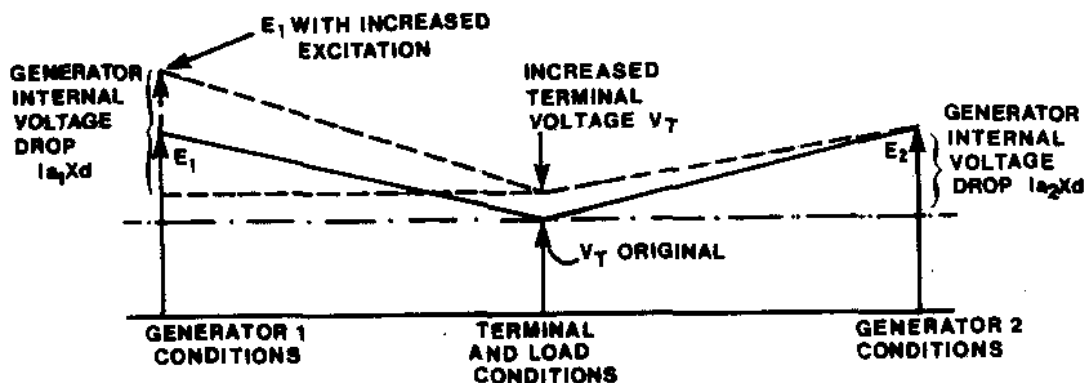

Figure 3: Diagram showing how V_T rises with increased excitation on G1. Note, this diagram is a scalar representation of the voltages.
- (a) Increasing the excitation on G1 will cause it to produce a greater field flux. This greater flux will produce a larger value of E_1 . This higher value of E_1 will cause the terminal voltage V_T to rise, Figure 3 shows the induced voltages, the internal voltage drops within the two generators and the common terminal (and load) voltage V_T .